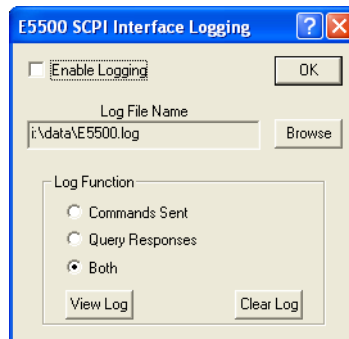

Figure 6 E5500 LAN client logging
- 1 Click the Logging button shown in Figure 5. The SCPI Logging dialog box appears as shown in Figure 6.